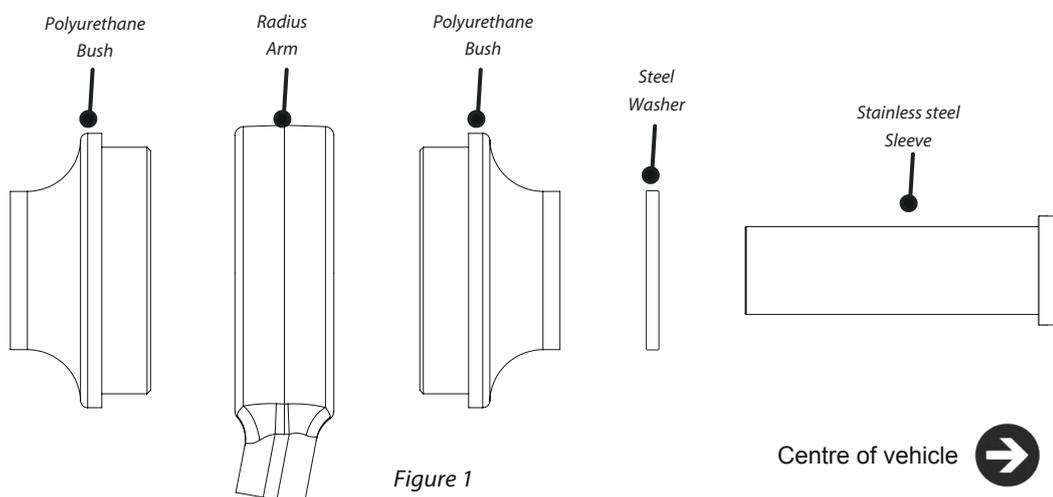

Figure 1
5. Apply some of the supplied grease to the bore of the polyurethane part, and insert the stainless steel sleeve into the bush from the inside of the vehicle, with the thicker lip positioned towards the centre of the vehicle, as shown in Figure 1.